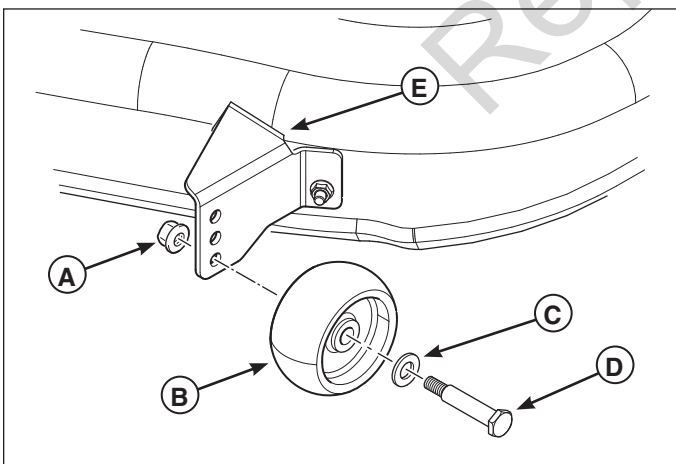

Figure 16
1. Remove the locknut (A, Figure 16), gauge wheel (B), washer (C), and shoulder bolt (D). Change position of gauge wheel to desired height.
2. Insert shoulder bolt (D) through washer (C) gauge wheel (B), and gauge wheel bracket (E). Secure with locknut (A). Repeat Steps 1 and 2 for all gauge wheels.